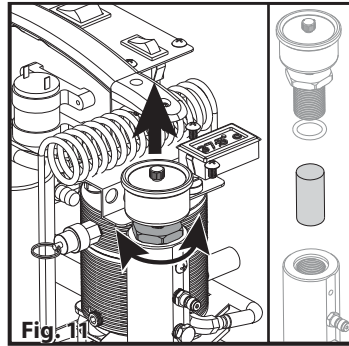

Fig. 11
4. Use a wrench to remove the hexagon shaped adapter and gauge from the separator main body (Fig. 11).
5. Remove the one (1) cotton air filter and replace with new cotton air filter.